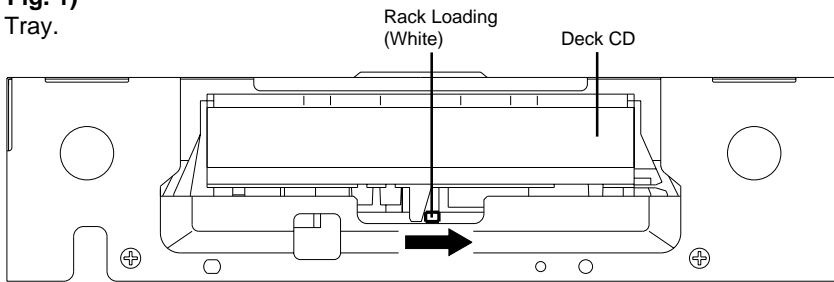

Fig. 1
1. Remove the Back Cabinet and AV PCB/DVD Block. (Refer to item 1 of the **DISASSEMBLY INSTRUCTIONS.**)
2. Slide the Rack Loading (White) toward the arrow direction by using a minus driver to release the lock. (Refer to Fig. 1)